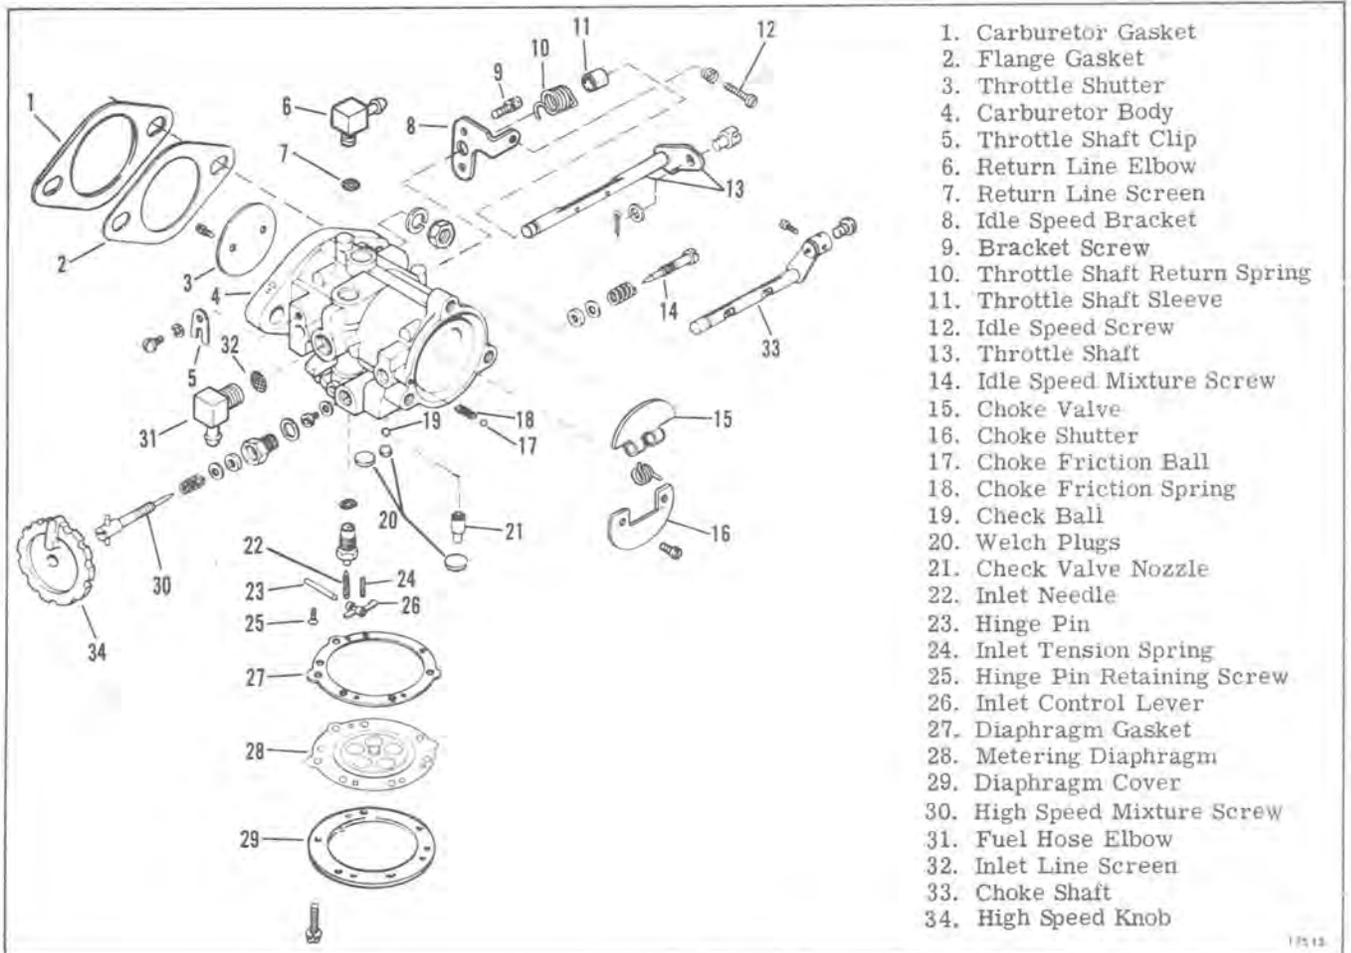

Figure 6-8
- a. Remove the idle speed mixture screw (14), washer and tension spring. Inspect for damaged threads (see Figure 6-8).
- b. Remove the metering diaphragm cover (29), the metering diaphragm (28), and gasket (27). Inspect the cover for nicks, dents, or cracks that might hamper operation. Inspect the metering diaphragm; the center plate must be riveted securely to the diaphragm and the diaphragm should be free of holes and imperfections. The gasket should be replaced if there are holes or creases on its sealing surface. The parts must be reassembled in the correct order. The gasket should be assembled onto the carburetor body casting first, then the metering diaphragm is assembled next to the gasket.
- c. Remove the hinge pin retaining screw (25), the hinge pin (23), inlet control lever (26) and the inlet tension spring (24). Use caution in removing these parts. Spring pressure may push the inlet control lever out of the casting. Inspect the parts for wear or damage. The inlet control lever must rotate freely on the hinge pin.
- e. Remove the inlet needle (22). Remove the inlet seat assembly using a 3/8-inch thin wall socket. Remove the inlet seat gasket.
- b. Inspect the filter for accumulation of sediment by removing the filter cap screw and the filter cap (see Figures 6-8 and 6-9). Clean the filter cover and fuel connectors in solvent and blow dry.